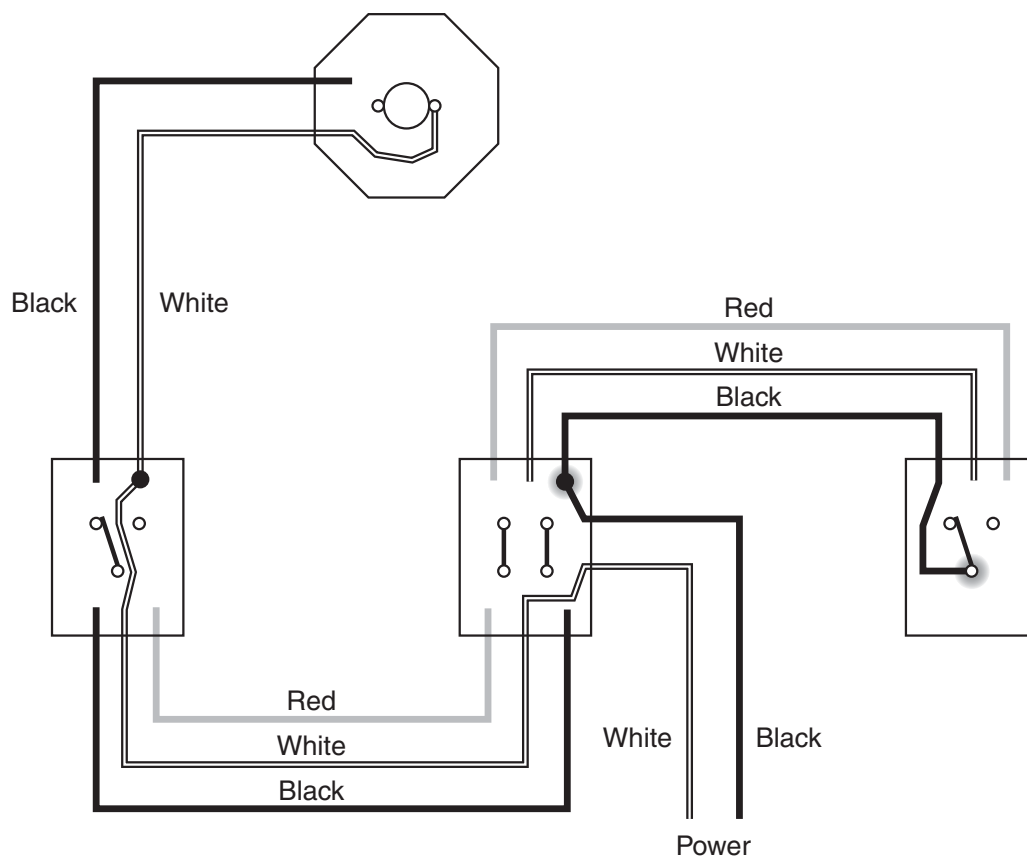

Figure 9-15 The hot conductor connects to the common terminal of one 3-way switch.
2. *Connect the hot conductor to the common terminal of one 3-way switch.* The black wire of the power cable connects to the black wire of the three-conductor cable that runs to the 3-way switch box that does not contain the switch leg to the light (Figure 9-15). Notice that the common terminal of the switch will be connected to a black wire.